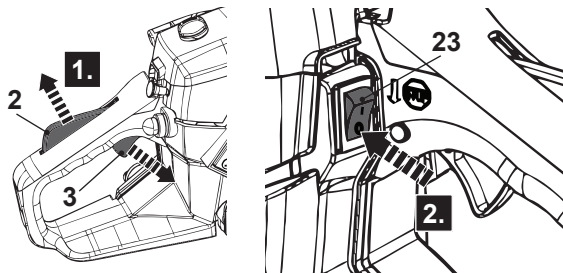

Fig. 26
1. Release the throttle interlock (2) and the throttle trigger (3) and let the product run at its idle speed for 10 – 15 seconds (Fig. 26, step 1).
2. Set the ignition switch (23) to "0" position (OFF position) (Fig. 26, step 2).